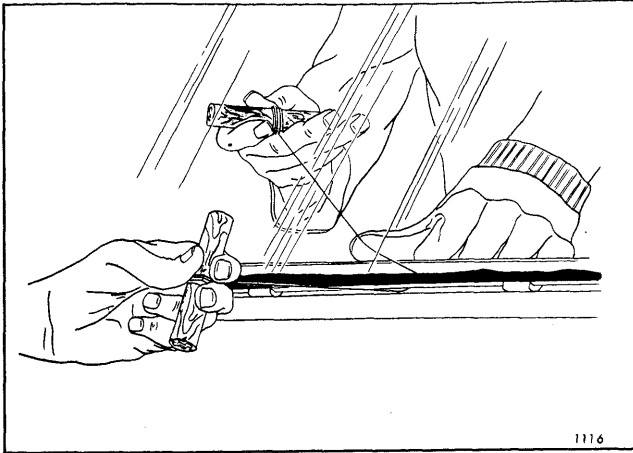

Fig. 1-2—Cutting Adhesive Material
3. Secure one end of steel music wire to a piece of wood (for handle) (Fig. 1-2). With the aid of a pair of long nose pliers insert the other end of wire through caulking material at lower inside corner of windshield along side of glass surface; then, secure that end of wire to another piece of wood (for handle).
4. With the aid of a helper, carefully cut (pull steel wire) through caulking material, up one side of glass across top, down opposite side and across bottom of glass (Fig. 1-2). Make sure inside wire is held close to plane of glass to prevent cutting an excessive amount of adhesive caulking material from the glass opening. This can be accomplished by holding the inside wire close to the plane of the glass with one hand while pulling the wire with the other hand. Keep tension on wire throughout cutting operation to prevent "kinks" in wire.